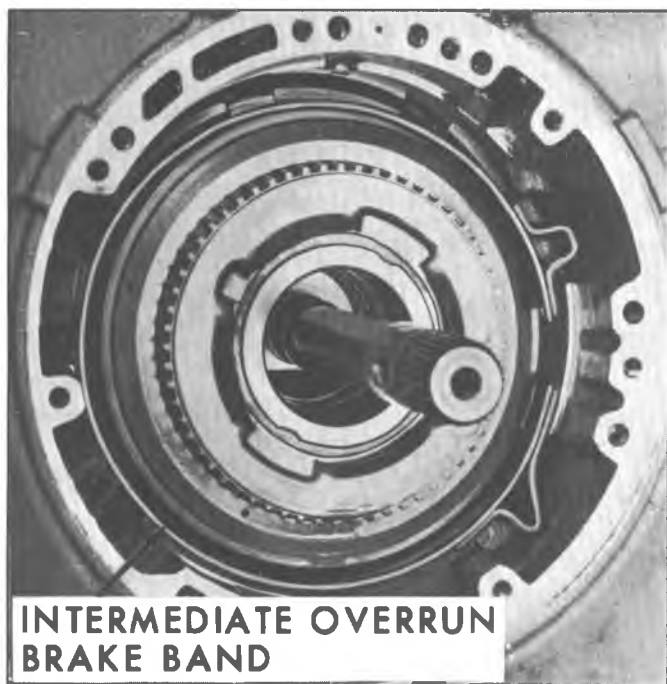

Fig. 7A-34B--Removing Intermediate Overrun Brake Band
6. Remove intermediate overrun brake band (fig. 7A-34B).